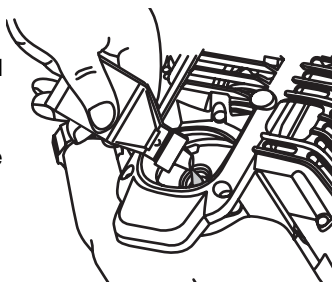

Fig. 4
4. Pour the entire bottle of oil into the oil fill hole (Fig. 4).